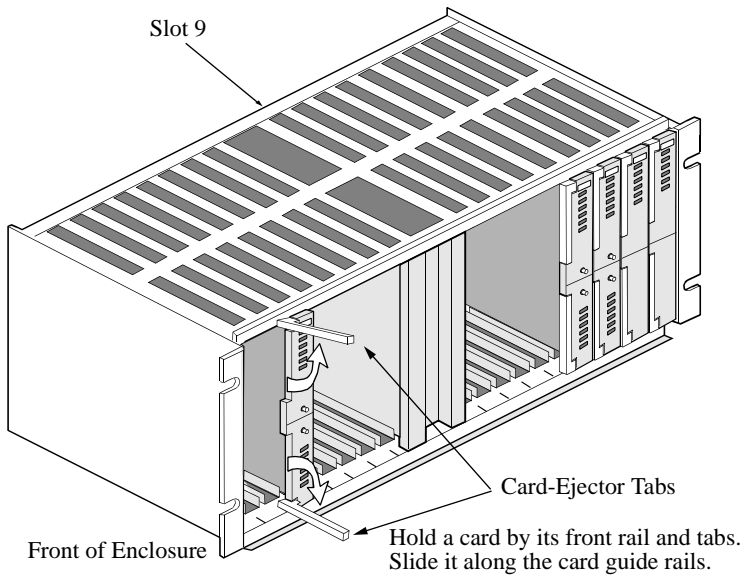

Figure 1-11. Installing a Modem Card in an AccessWay
2.	Flip the modem card's ejector tabs (Figure 1-11) apart. Slide the card into a slot's guide rails. Press the tabs until it is seated firmly and the tabs are against the rail. Ensure that the card front panel is flush with the power module front panel.
1.	Press the card ejector tabs apart (Figure 1-11).